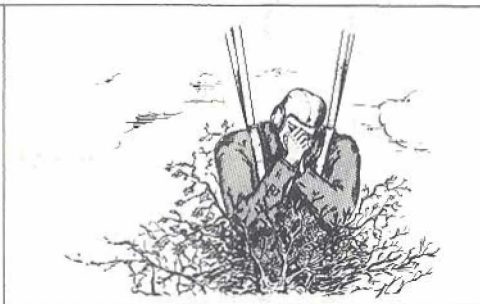

Figure 5: Tree Landing
(7) **TREE LANDING** - Tree landings are quite simple. If you see that you are about to land in a tree, remove your hands from the risers and cross them in front of your face as shown in Figure 5 overleaf. This protects your face and gives you a chance to glance downwards between your arms. Remember to keep your feet and knees together. If you stick high up in a tree, first consider your chances of being rescued. If rescue prospects appear